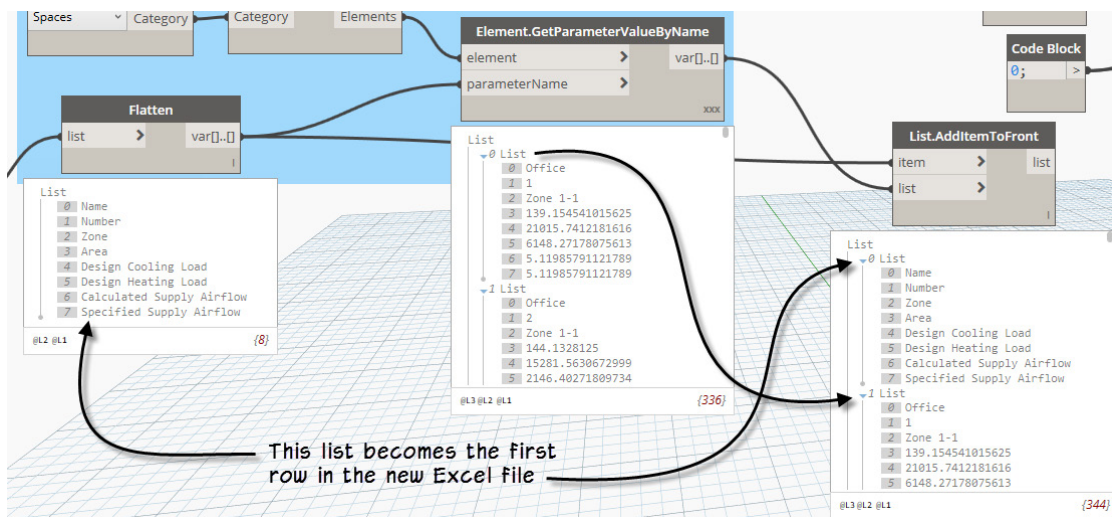

Figure 67
30. Expand the Preview Bubble and run the graph (see Figure 67).